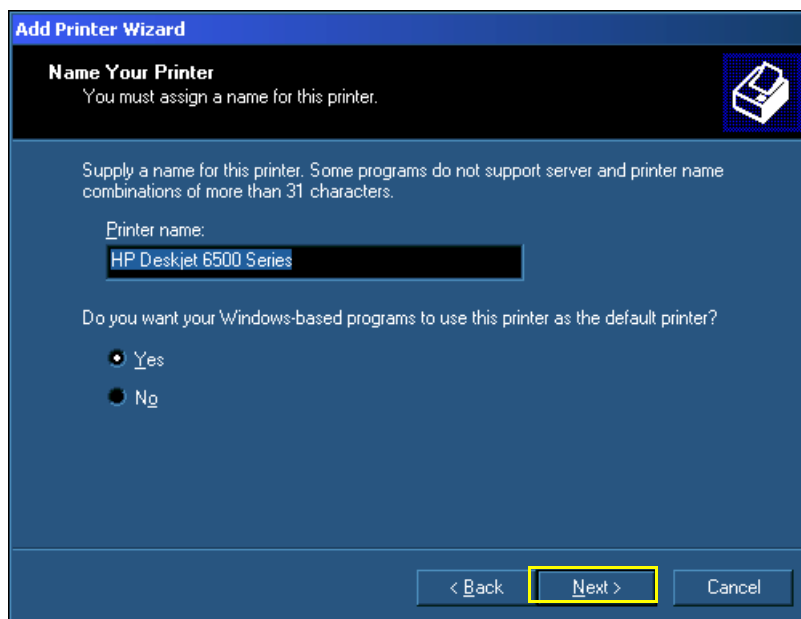

Figure 8-142 Choosing Default Printer
16.) When prompted, choose **Yes** if you want this printer to be the default printer - see Figure 8-142.